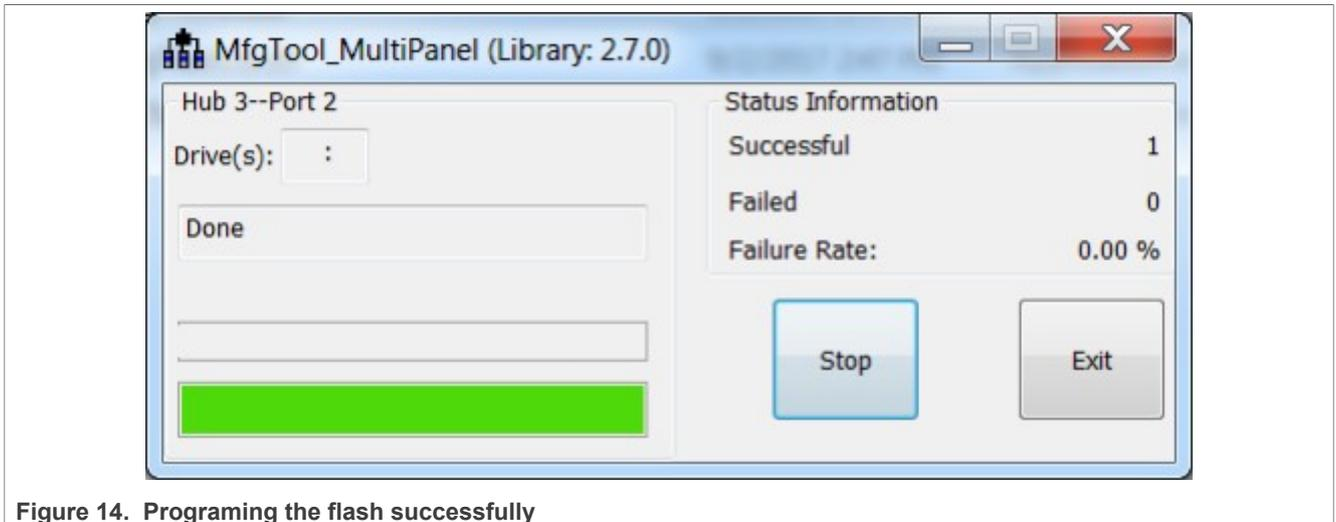

Figure 14. Programming the flash successfully
5. Program the bootable image. Click the **Start** button to trigger a programming sequence and wait for it to complete, as shown in Figure 14. To exit Mfgtool, click the **Stop** and **Exit** buttons.